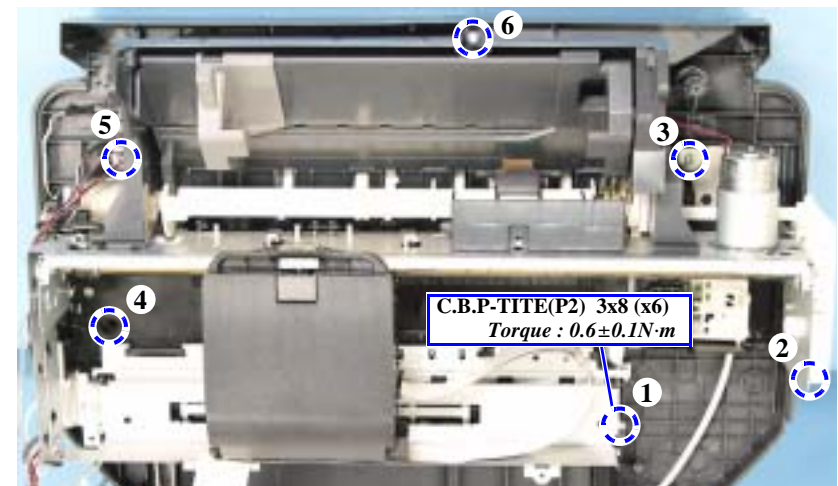

Figure 4-35. Removing the screws (Printer Mechanism Assy)
- Tighten the screws in the specified order. (Fig. 4-35)
- Remove the screws (x6) securing the Printer Mechanism Assy. (Fig. 4-35)